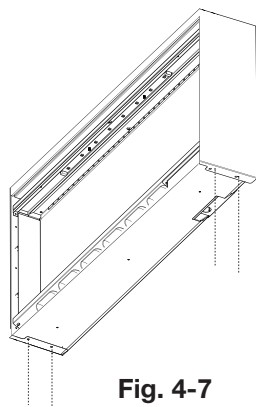

Fig. 4-7
4. If side covers are installed prior to recessed installation, remove the side covers by removing the screws (**Fig. 4-7 & 4-8**).